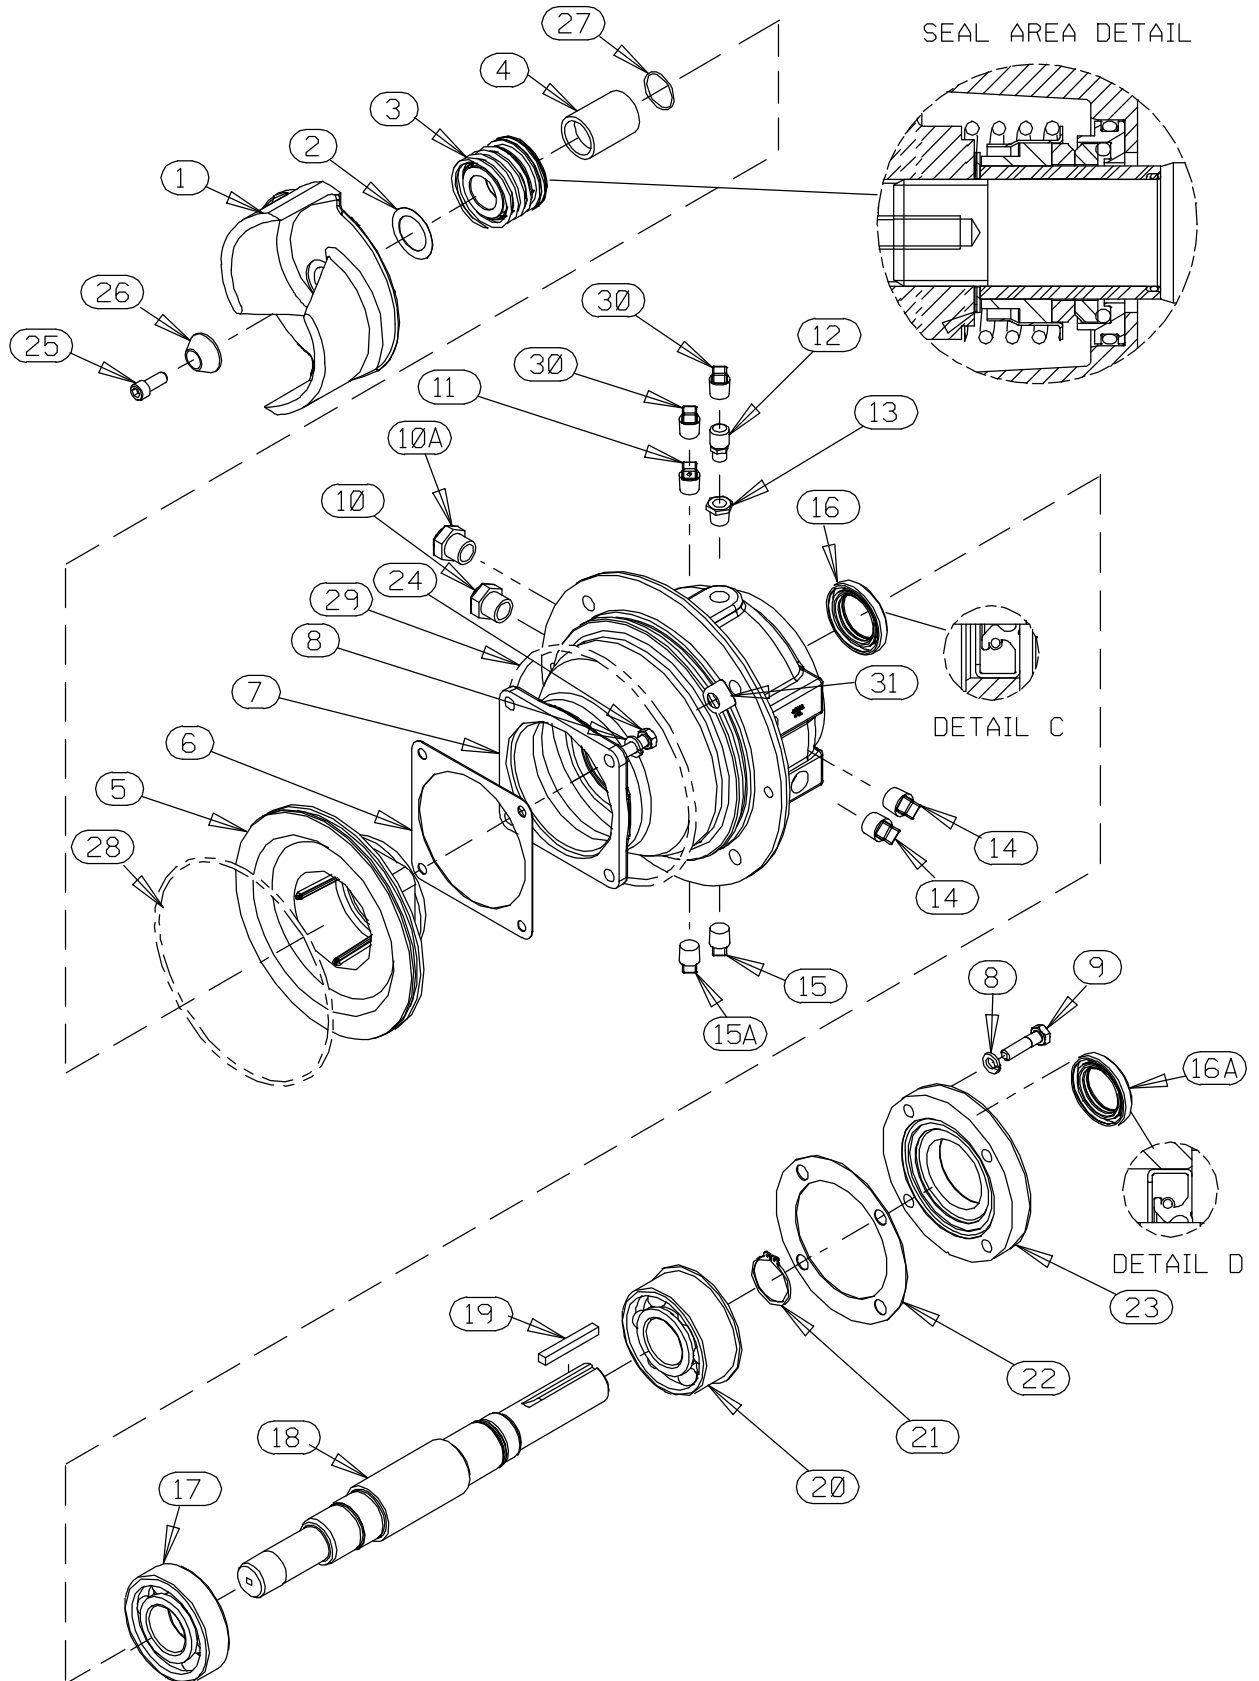

Figure 2. Repair Rotating Assembly
#### (Figure 2)
**Impeller Removal****(Figure 2)**
**Seal Removal****(Figure 2)**
**Shaft and Bearing Removal and Disassembly****(Figure 2)**
(Figure 2)